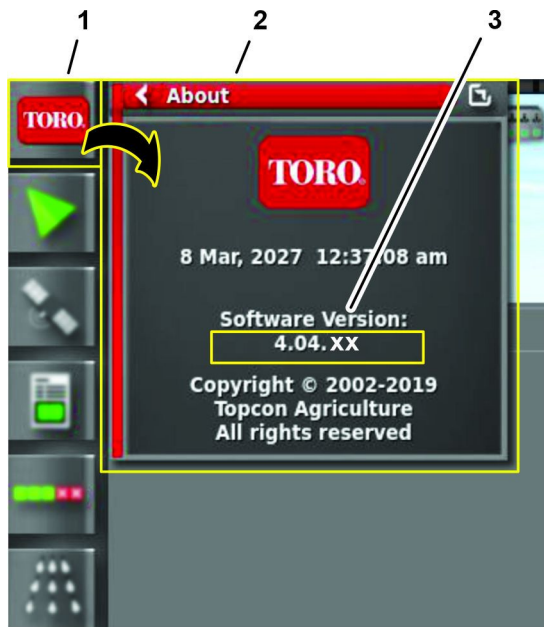

Figure 198
2. Press the ABOUT (Toro) icon at the upper left corner of the control console (Figure 198).